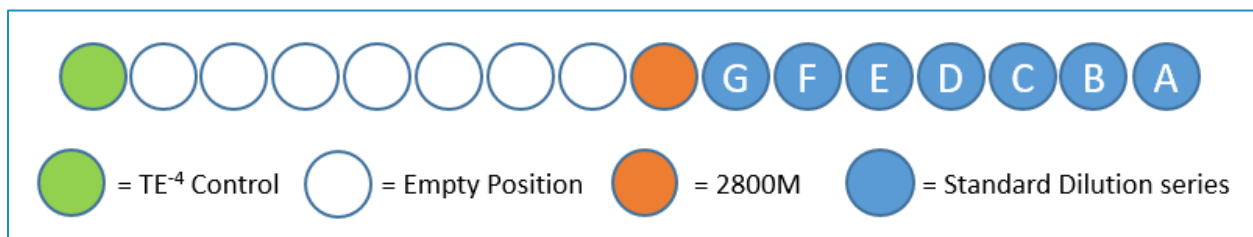

Figure 1 - Standards Rack
1.	<p>Prepare the Standards Rack (See Figure 1):</p> <ul style="list-style-type: none"> • Positions 1 through 7: the mtDNA Quantitative PCR Standard Dilution Series • Position 8: a tube of 2800M containing at least ~10 µL • Position 16: the tube of TE⁻⁴ control